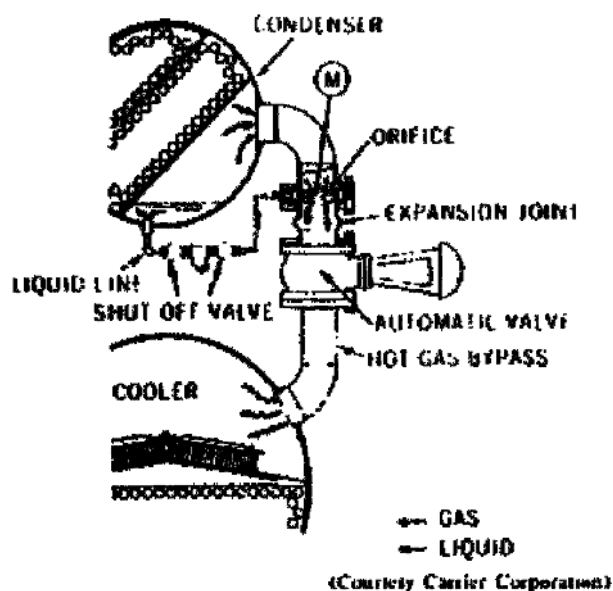

Figure 65. Hot gas bypass.
temperature, the returning chilled water temperature becomes an indication of the load. This temperature is used to control the hot gas bypass. A thermostat, set in the returning chilled water, operates to bleed air off the branch line serving the hot gas bypass valve. The thermostat is set to start opening the bypass valve slightly before the compressor hits its surge point. Figure 65 illustrates components and location of the hot gas bypass line.
3. The automatic valve shown in figure 65 is normally closed. When this valve is closed, there is no flow of gas through the orifice. The pressure at point M, just below the orifice, is the same as the condenser pressure; therefore, no liquid will flow through the liquid line. When the occasion arises for the need of hot gas, the valve is opened automatically and a pressure drop will exist across the orifice. The amount of pressure drop is a direct function in determining the rate of gasflow through the orifice. The larger the flow of hot gas through the bypass and orifice, the lower the pressure at point M will become in relation to the condenser pressure, and the greater will be the pressure differential to force desuperheating liquid through the liquid line. As the amount of hot bypass gas is increased or decreased by